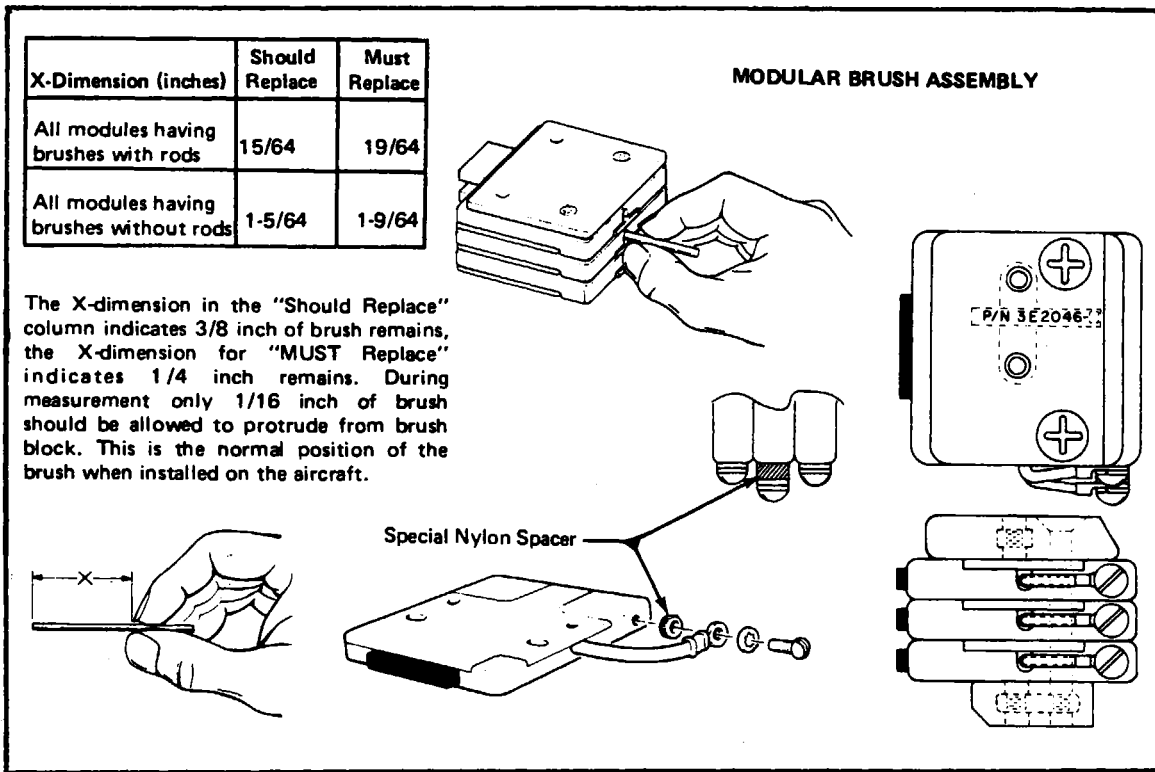

Figure 14-24. Modular Brush Assembly
c. Restack modules and spacers as shown in Figure 14-24. If there is interference between adjacent ring terminals, reorient center module as shown in Figure 14-24.